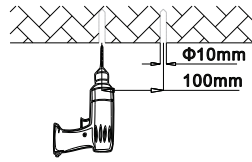

FIGURE 3
1. Mark with a marker pen or sharpie tool on the mounting surface and drill. (Figure 3)